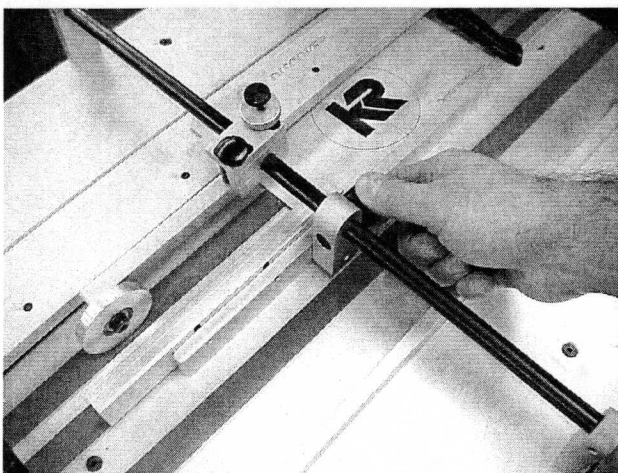
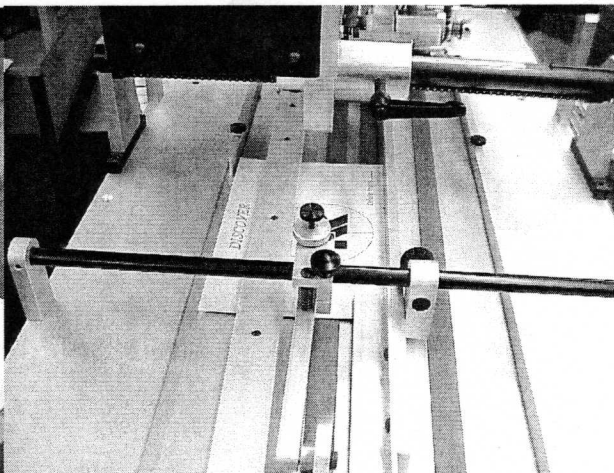

Figure 1
Figure 2
1. Folded product must enter the tabber belts folded edge first. Adjust the bump turn side guide (see **Figure 1**) to fit the width of the product (see **Figure 2**). The side guide must not line up over a conveyor belt. The two center belts can be adjusted to miss the side guide by moving the outfeed crown drive rollers. The belts will track anywhere you move the drive crown rollers.